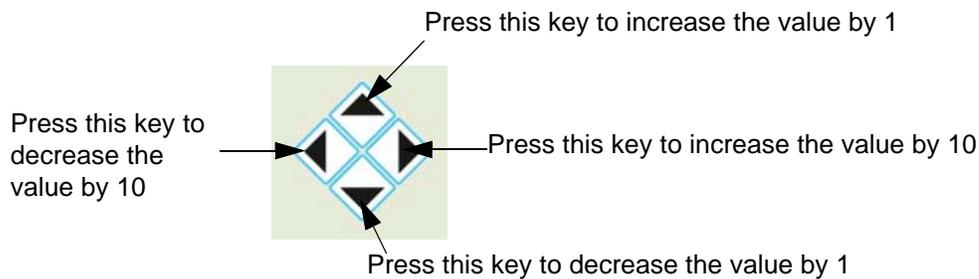

Figure 3-15: Changing Values Using the Arrow Key
- When a software option contains a value (shown inside a black box), use the arrow keys to increase or decrease the value (refer to Figure 3-15 on page 3-17).